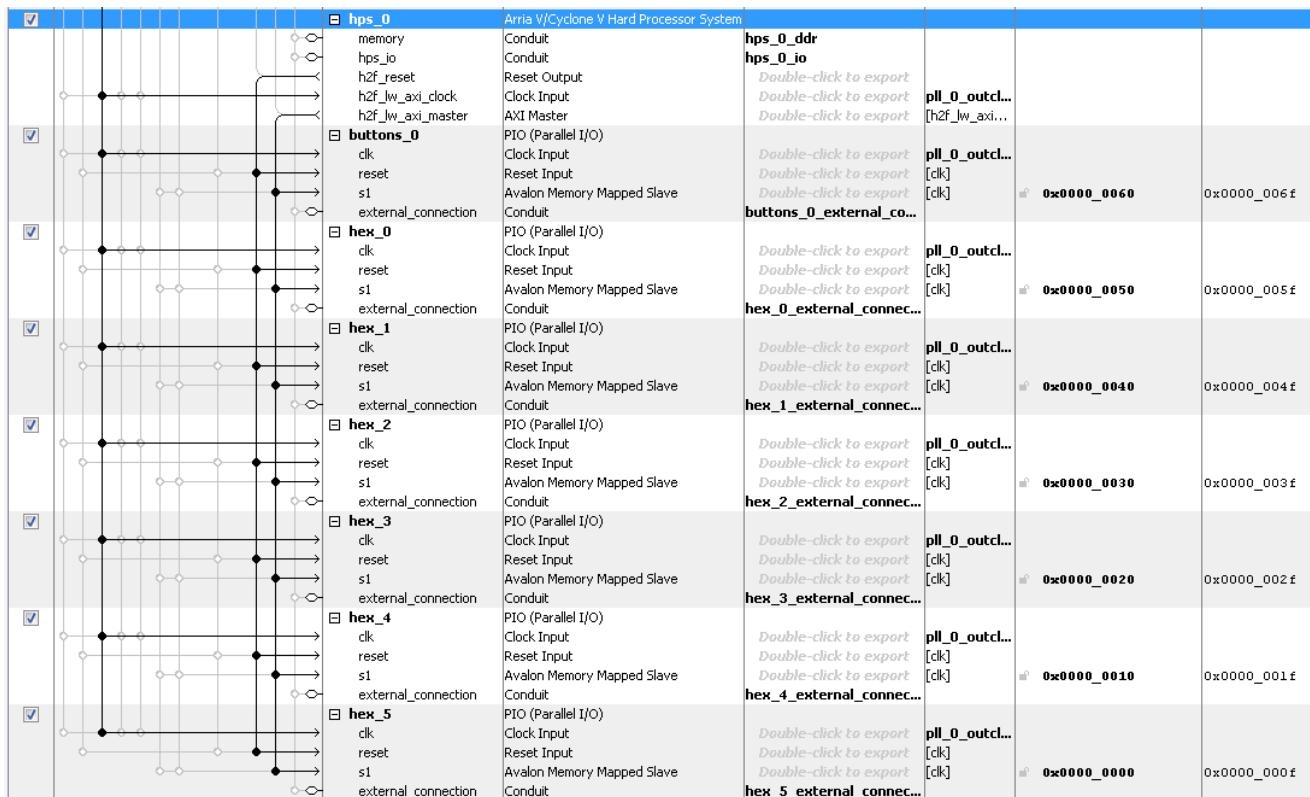

Figure 8-11. Adding Buttons and 7-segment Displays to the Lightweight HPS-to-FPGA Bridge
25. Connect the system as shown in Figure 8-11 below. Notice that we use “hps_0.h2f_reset” as the reset signal for the components connected to the HPS. This is a design choice so we can separately reset FPGA-only peripherals, and FPGA peripherals connected to the HPS.